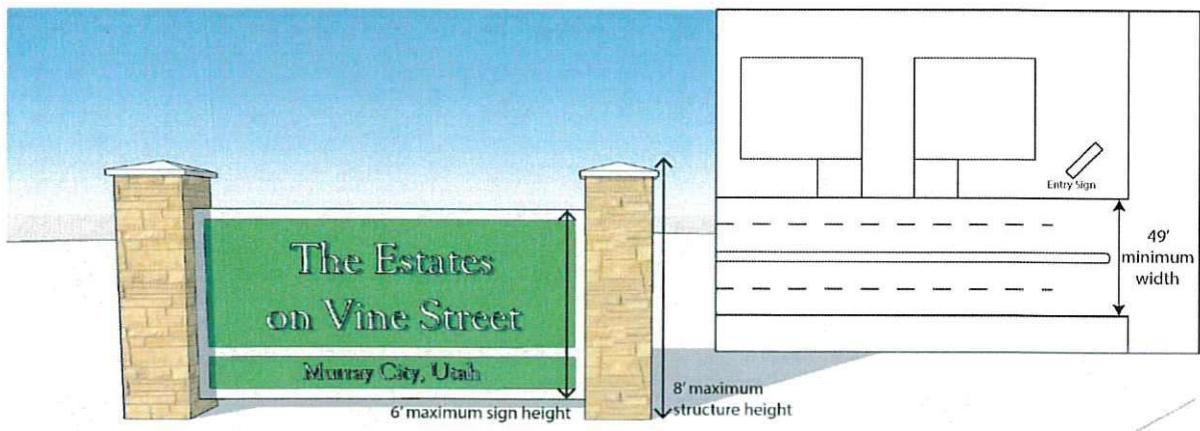

Figure 19
- a. Number. Each residential development is permitted one Residential Entry Feature per primary entrance into the development, and shall be located on a street frontage at least forty-nine (49) feet in width (*See Figure 19*).
- b. Spacing. Residential Entry Signs shall be no closer than one hundred (100) feet to any other Ground Sign on the same frontage.
- c. Sign Height. The sign portion of an Entry Feature for a residential development shall not exceed six (6) feet in height.
- d. Structure Height. Residential Entry Feature structures shall not exceed eight (8) feet in height.